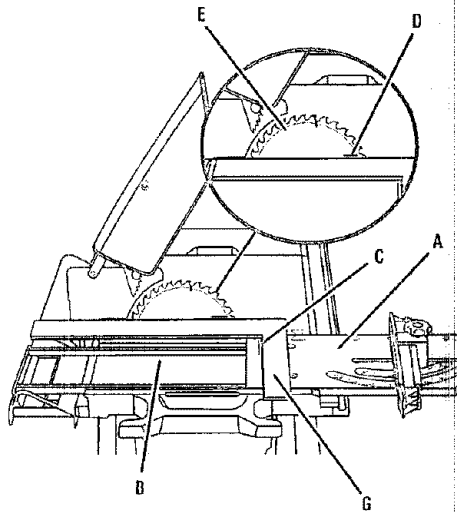

Fig. 24
See Figures 24 - 25.
- ❑ Slide miter table (A) to the front of miter base (B) as far as it will go. Place a reference mark (C) near the end of the miter table as shown in figure 24.
- ❑ Place a reference mark (D) on one of the blade teeth and rotate the blade (E) so that the reference mark on the blade is at the front of the throat plate.
- ❑ Place a framing square (G) against the blade and align with reference mark on miter table. Measure the distance between the blade and the edge of miter table.